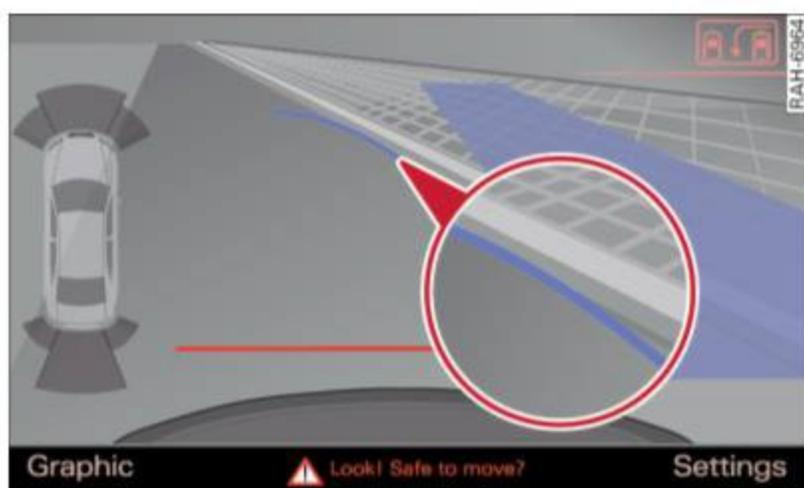

Fig. 135 MMI Display: Blue curve on the curb
- ▶ Back into the parking spot. Stop the vehicle as soon as the blue curve touches the curb ⇒ *fig. 135*.
- ▶ Continue to back up into the parking spot until the vehicle is parked parallel to the curb. ③ marks the rear bumper. You should stop driving in reverse as soon as and no later than when the red orientation line ④ abuts an object ⇒ ⚠! Keep an eye on the front of your vehicle while doing this ⇒ ⚠!
When there is an obstacle (such as a wall) next to the parking spot, choose a spot with more space on the sides. Position the long side of the blue area so that there is sufficient space from the curb. The area must not be on the curb. You will also need to start turning the steering wheel much earlier. There should be a sufficient amount of space between the curb and the blue curve, and the blue curve ⇒ *fig. 135* must **not** touch the curb.